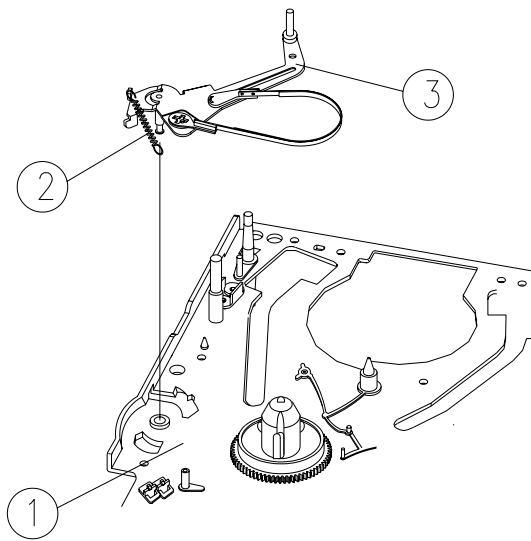

Fig.3-15 TENSION BAND ASS'Y REMOVAL (¥)
3-10. TENSION BAND ASS'Y REMOVAL (See Fig.3-15, 3-16)
- Remove the TENSION SPRING from the MAINBASE . (Fig.3-15)